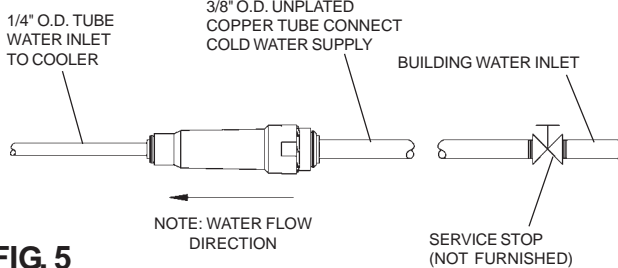

FIG. 5
4. Connect strainer to water supply (service stop). Refer to figure 5. **DO NOT SOLDER TUBES INSERTED INTO THE STRAINER AS DAMAGE TO THE O-RINGS MAY RESULT.** Connect trap to waste stub and fountain.